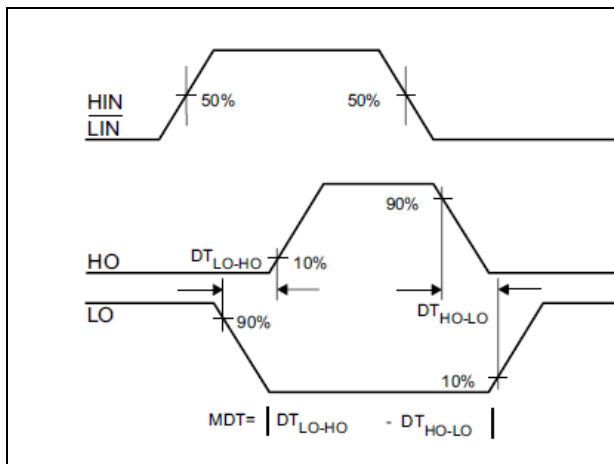

Figure 8 Dead Time Definitions
This 2ED2183 (4) S06F (J) features integrated deadtime protection circuitry. The deadtime is fixed for 2ED2183S06F; is programmable for 2ED2183S06J, it provides greater design flexibility. The deadtime feature inserts a time period (a minimum deadtime) in which both the high- and low-side power switches are held off; this is done to ensure that the power switch being turned off has fully turned off before the second power switch is turned on. This minimum deadtime is automatically inserted whenever the external deadtime is shorter than DT; external deadtimes larger than DT are not modified by the gate driver. Figure 8 illustrates the deadtime period and the relationship between the output gate signals.